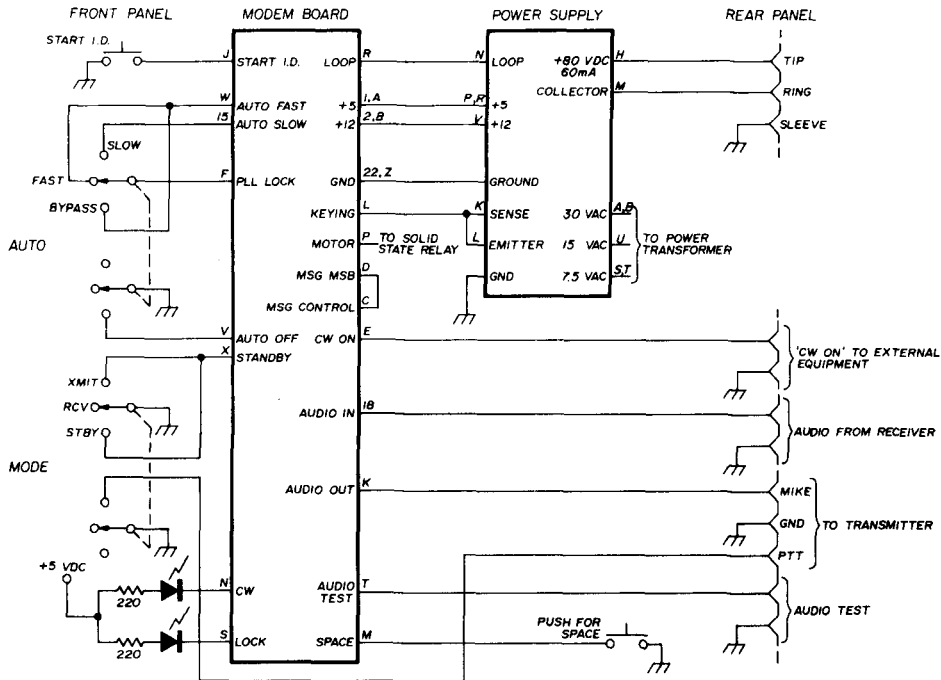

fig. 4. Interface wiring for the PC boards, front-panel controls, and rear-panel connectors.
**Fig. 4** is a schematic showing one way to connect the boards, front panel controls, and rear panel connectors. Variations on this wiring will be determined by your requirements.